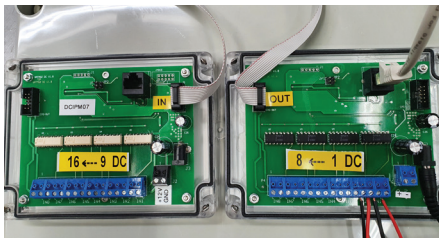

Figure 25
- Using a 10 way (one to one) ribbon cable fitted with 10 way locating headers plugs (as seen in figure 25), connect one end of this cable to the CAS OUT port on the module that will control outputs 1 to 16 and the other end of the cable to CAS IN on the module that will control outputs 17 to 32 as seen in figure 25.